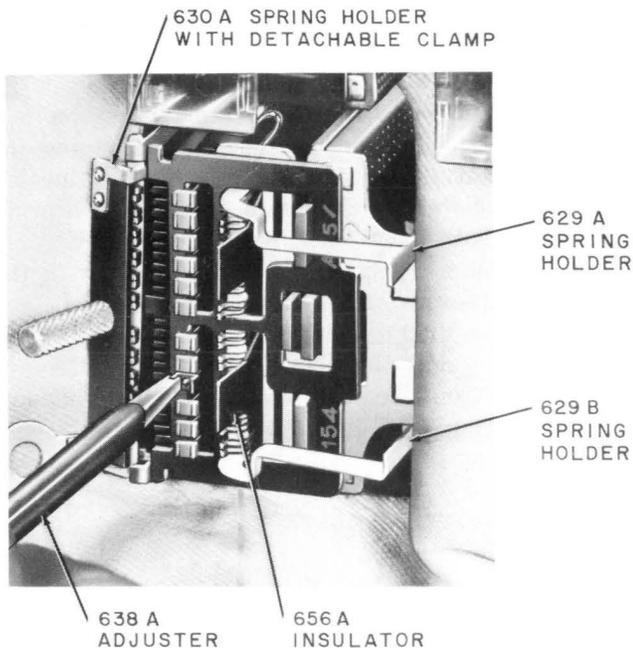

Fig. 11—Aligning Tang of Fixed Contact
4.31 Contacts on Fixed Springs: If the sides of the U-shaped contact welded on a fixed spring are not in line vertically with the sides of contacts on other fixed springs in the row, align the sides of the U using the 638A adjuster for the contact on all except 286-, 287-, and 288-type relays (P-10A949 contact) and the 638B adjuster for the contact on 286-, 287-, and 288-type relays (P-19A353 contact) as follows. Place the slot in the end of the 638A adjuster on the side of the U to be adjusted as shown in Fig. 11. Hold the